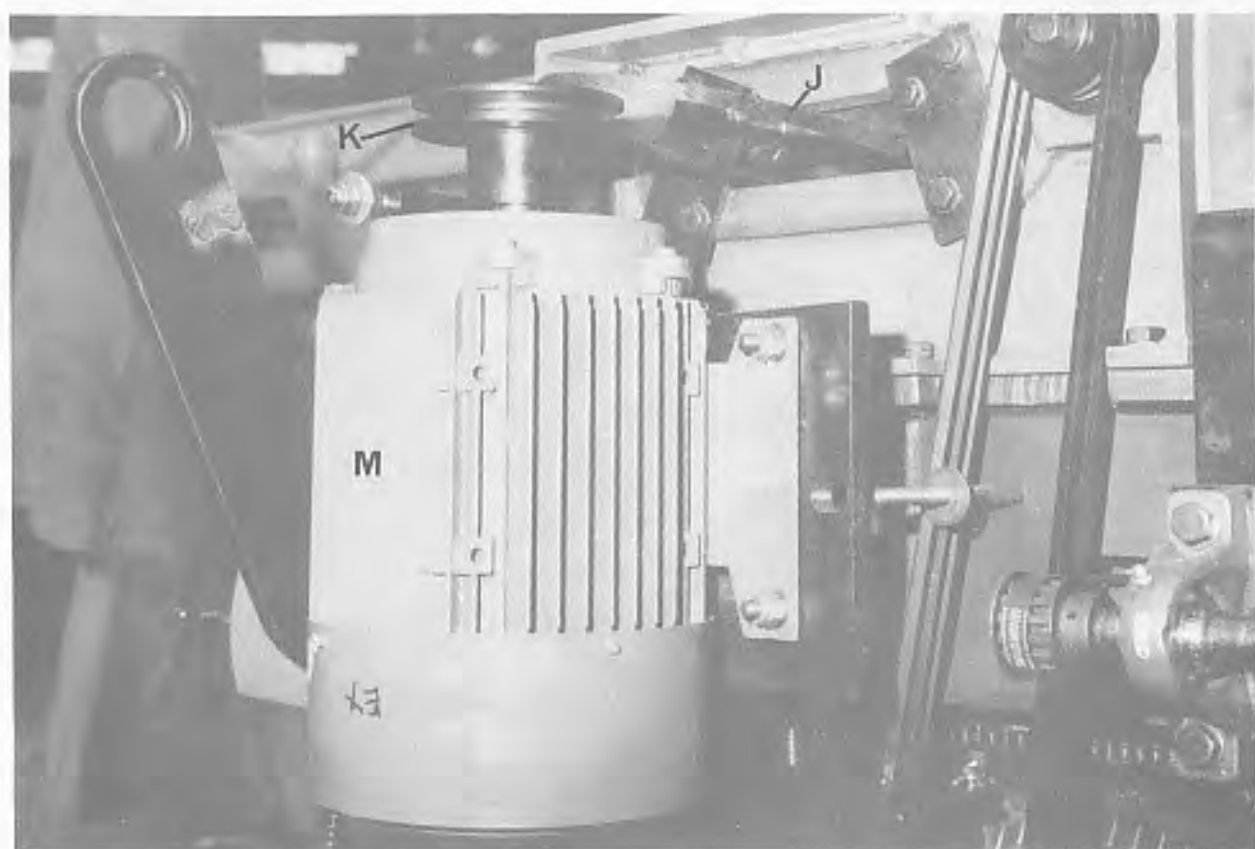

Fig 27
- 4) Remove thickener side head drive belt "J" from drive pulley "K" FIG. 27.
- 6) Pivot side head drive motor "N" FIG. 27 until clear of stud "L"
- 5) Remove thickener side head drive belt "J" from drive pulley "K" FIG. 27.